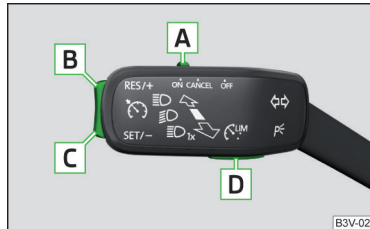

Fig. 188
Overview of the control elements of the CCS » Fig. 188
- ▶ By pressing the button **D** » Fig. 188.
- By pressing the button **D** » Fig. 188 during the regulation this is cancelled and the Speed Limiter is activated.